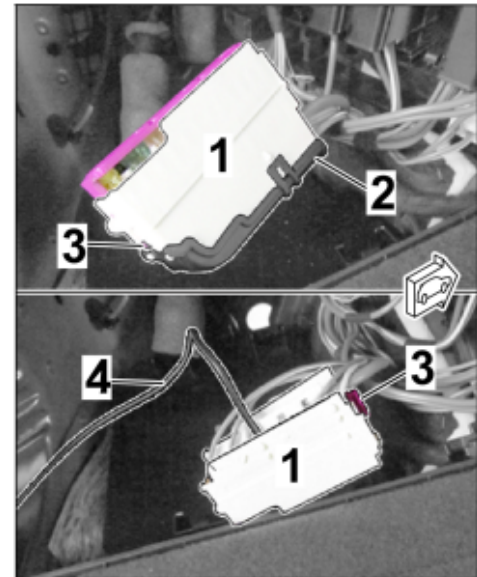

Figure 9
2.3.1 Remove fuse holder H (strip B – white) from the fuse box in the luggage compartment. ⇒ *Figure 9 -top-*, ⇒ *Workshop Manual '978409 Loosening and securing fuse box in the luggage compartment'*
2.3.2 Release fuse holder H (strip B – white) and connect the lines (RD/GN and RD/YE) as follows (⇒ *Figure 9 -Bottom-*):